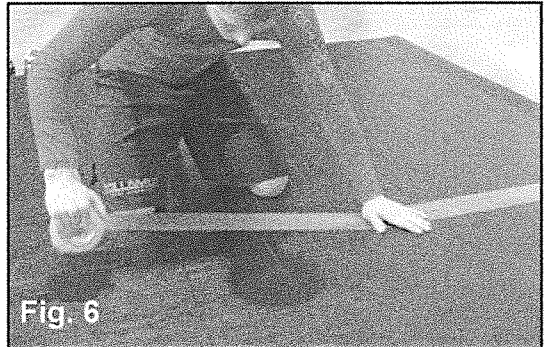

Fig. 6
**6** After the individual rolls have been lined up side by side, eliminating any gaps, center Dollamur Mat Tape over each seam (fig. 6) and secure it firmly to the vinyl. Use the supplied scraper to remove any air bubbles in the tape ensuring a good bond